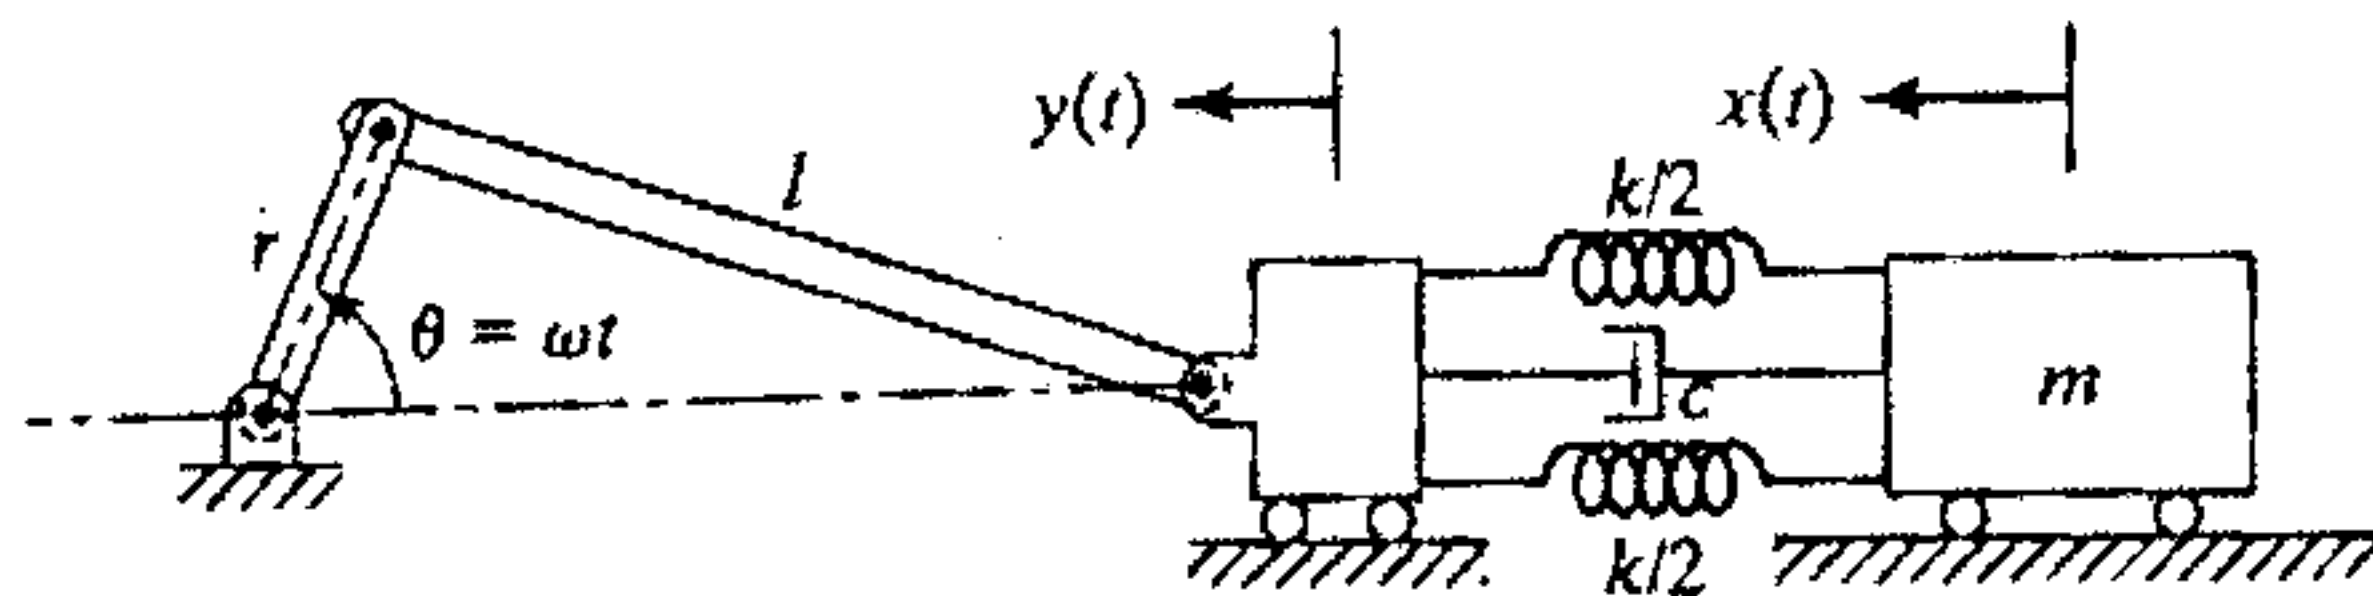

Fig 7
- 7) A slider crank mechanism is used to impart motion to the base of a spring mass damper system, as shown in figure 7. Approximating the base motion $y(t)$ as a series of harmonic functions, find the response of the mass for $m=1\text{kg}$, $c=10\text{Ns/m}$ $k=100\text{N/m}$, $r=10\text{cm}$, $l=1\text{m}$ and $\omega=100\text{rad/s}$. 14M